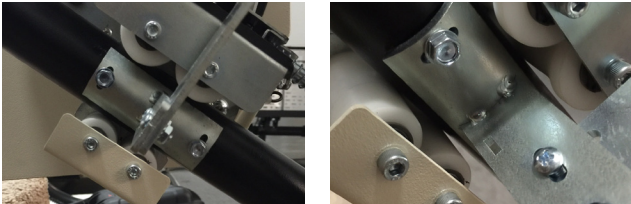

Figure 3-25
2. Mount the station to the rail using the self tapping screws provided. *See Figure 3-25.*